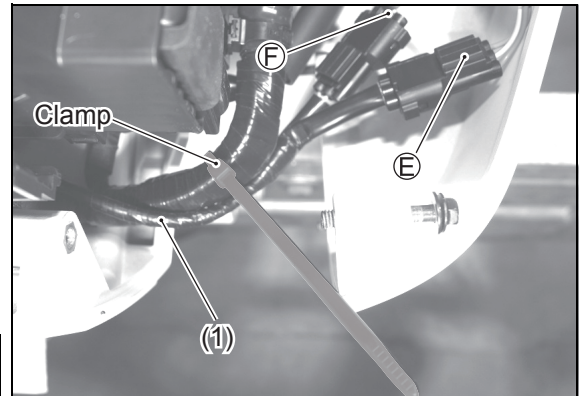
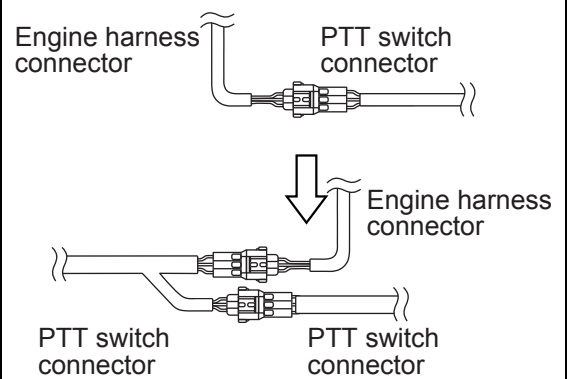

Fig. 4
Fig. 5
7. Connect the engine adapter wire (1) to the PTT switch connector (E) and the engine harness connector (F) as shown in Fig. 4 and Fig. 5.
8. Fix the engine adapter wire (1) to the upper side of the main harness using the clamp as shown in Fig. 4.